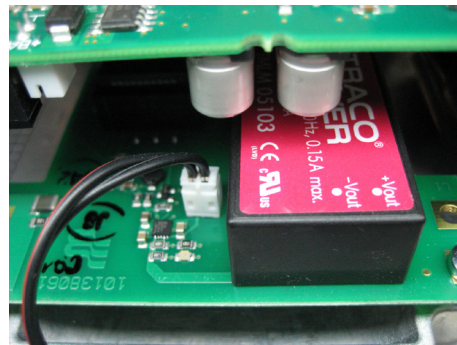

Figure 26: Backup battery location
2. Connect the battery to the connection socket on the power supply board. See Figure 26.